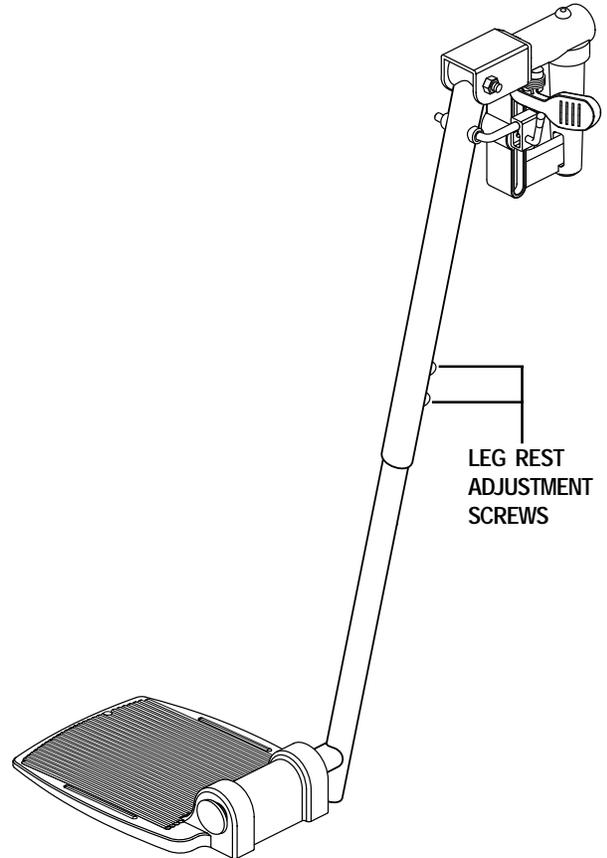

Figure 14. Elevating Leg Rests (Swing-away is similar.)
1. Remove the two screws from the side of each leg rest extension. See figure 14.